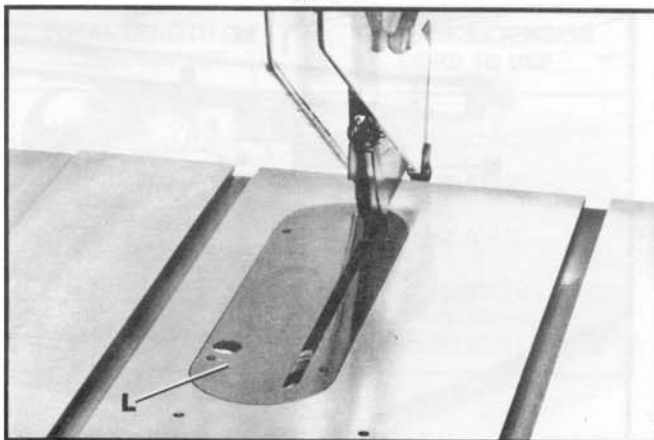

Fig. 28
10. Lower saw blade and assemble table insert (L) Fig. 28, to the saw table as shown.